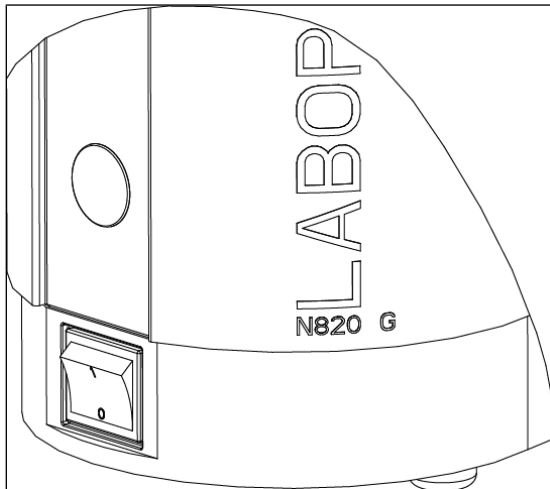

Fig. 4: Switching the pump on and off with power switch
- Switch on the pump with the power switch (see Fig. 4).